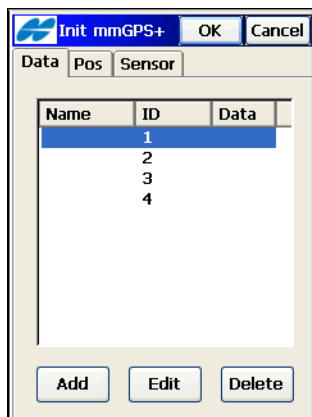

Figure 8-13. Initialize mmGPS+ – (Trans) Data Tab
2. Tap **Survey ► Init mmGPS+**. The Init mmGPS+ screen displays (Figure 8-13 on page 8-14).
- On the (Trans) *Data* tab, select the **ID** that corresponds to the channel of the transmitter, then tap **Add** (Figure 8-13). The *Transmitter* screen displays.